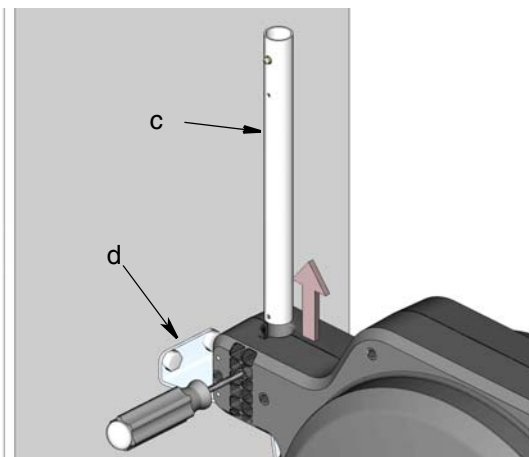

FIG. 8
5. Slide tube (c) out of bracket (FIG. 8).